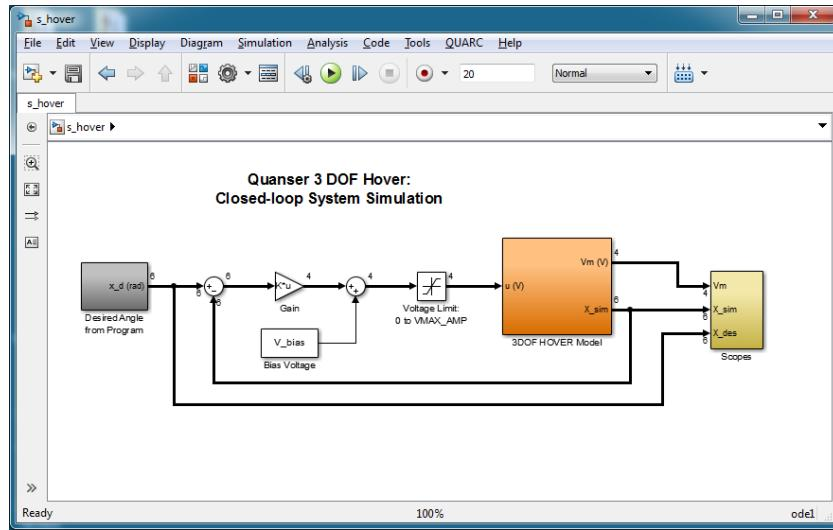

Figure 3.1: Simulink diagram used to simulate 3 DOF Hover system
In this section we will use the Simulink diagram shown in Figure 3.1 to simulate the closed-loop control of the Quanser 3 DOF Hover system. The system is simulated using the linear model summarized in Section 2.1. The Simulink model uses the state-feedback control described in Section 2.2. The feedback gain  $K$  is found using the Matlab LQR command (LQR is described briefly in Section 2.2.2). The goal is to make sure the generated gain can stabilize the system while not saturating the dc motors.
The 3 DOF HOVER Model block shown in Figure 3.1 uses the Simulink State-Space block to load the dynamics model from the workspace. High-pass filters are used to obtain the velocity states.
3. Open the Simulink model called `s_hover.mdl`, shown in Figure 3.1.
6. Open the *s\_hover.mdl* Simulink diagram, shown in Figure 3.1.